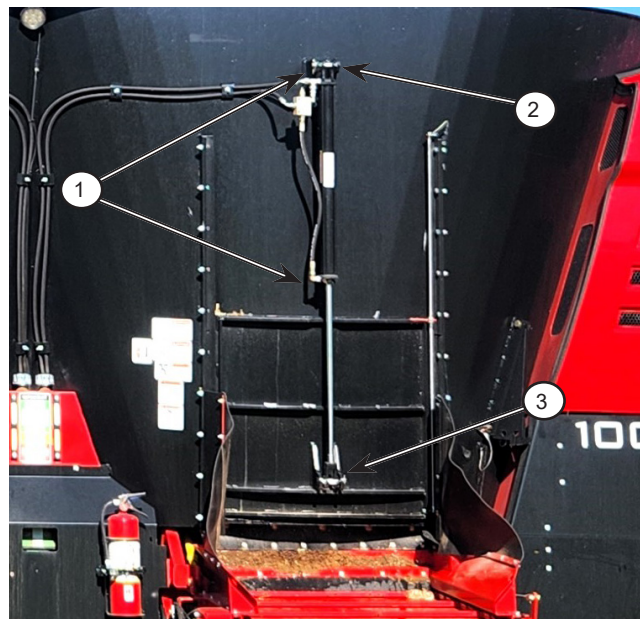

Figure 1: Remove the existing hydraulic cylinder
2. Disconnect the hydraulic hose fittings (1) from the hydraulic cylinder, as per *Figure 1*.
- a. Remove the hardware fastening the hydraulic cylinder to the tub wall (2) and the unload door (3), as shown in *Figure 1*.